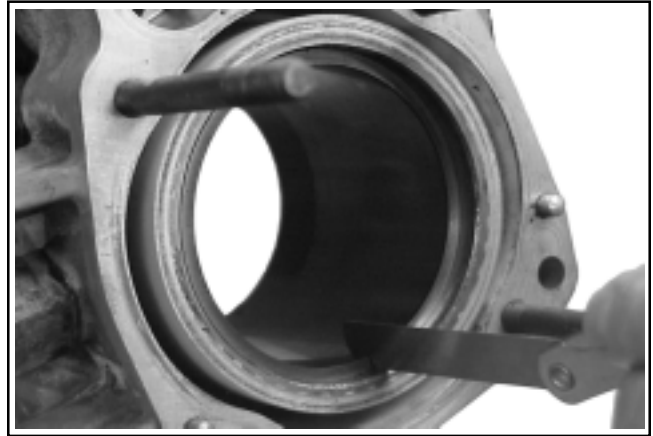

Figure 10-8. Measuring Piston Ring End Gap.
4. Before installing the new rings on the piston, place the top two rings, each in turn, in its running area in cylinder bore and check end gap (see Figure 10-8) against the listed specifications below.